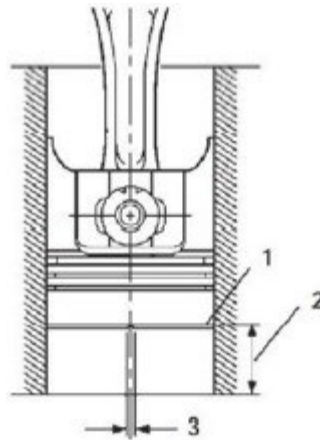

Figure 111.
9. To measure piston ring end gap, insert each compression piston ring (Figure 111, Item 1), one at a time, into the cylinder. Use a piston with the piston rings removed to slide the ring into the cylinder bore until it is approximately 1.18 in. (30 mm) (Figure 111, Item 2) from the bottom of the bore. Remove the piston. Measure the end gap (Figure 111, Item 3) of each piston ring. Record the measurements. See *Piston Ring Mechanical Specifications Chart*.